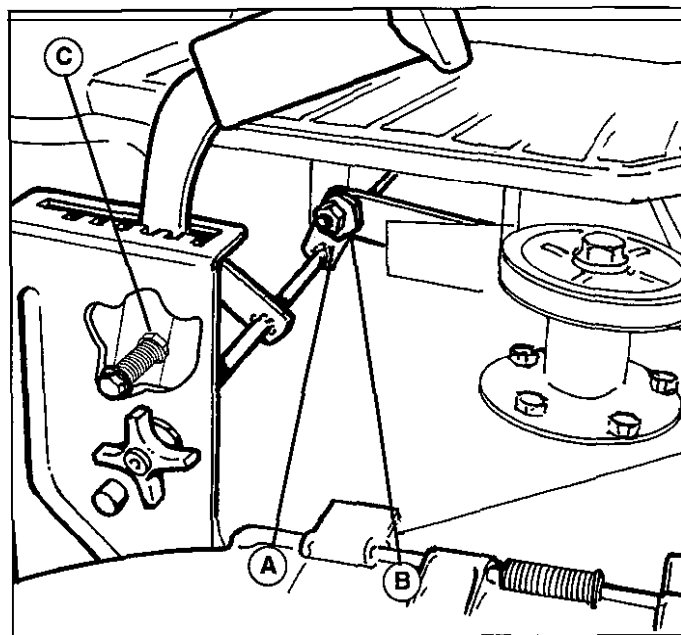

Figure 27. Front-to-Back Adjustment Nut
- See figure 27. Loosen the outside nut (A) and turn the eccentric nut (B) to raise or lower the rear of the
*NOTE: If mower handle drops out of cutting height quadrant, turn adjustment nut (C, figure 27) clockwise to increase spring tension. DO NOT tighten nut **all** the way so that spring is solid.*